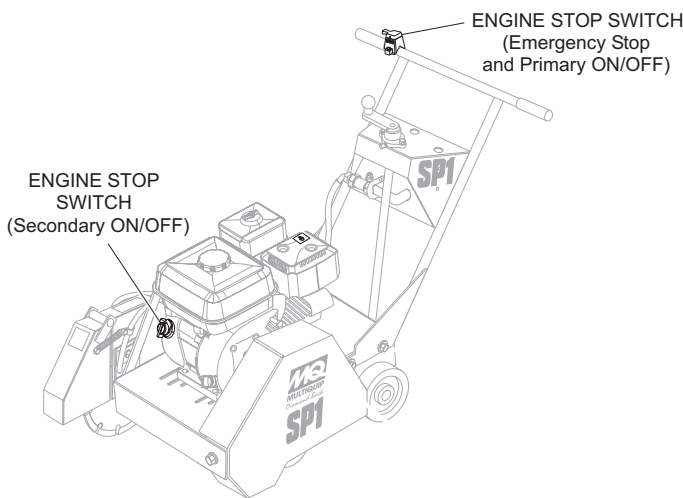
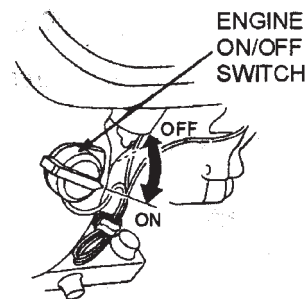

Figure 15. Engine Stop Switches
Figure 18. Engine ON/OFF Switch (On Engine)
The Engine Stop Switch located on the handlebar (Figure 15) serves both as an Emergency Engine Shut-Off and as the primary ON/OFF switch. This allows the operator to shutdown the saw safely away from moving parts.
4. Place the **ENGINE ON/OFF switch** located on the **ENGINE** (Figure 18) in the "ON" position. Place the **ENGINE ON/OFF switch** located on the **HANDLEBARS** (Figure 15) in the "ON" (center) position.